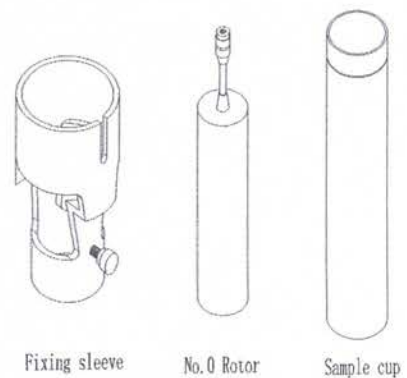

Fig. 5
1) The No. 0 rotor component is composed of a fixed sleeve, No. 0 rotor, and a test cylinder. Its structure is shown in Fig. 5. This component can only be used when the No. 0 rotor is measured, and this component is not suitable for other rotor tests.